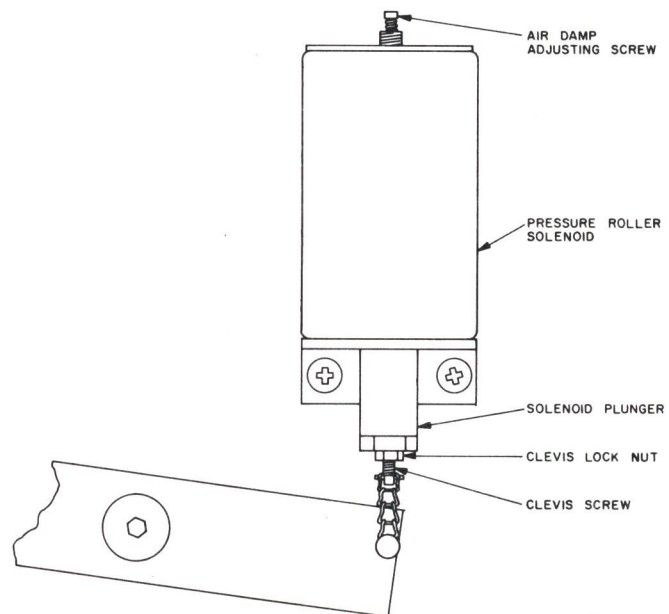

FIGURE 6-6
4. If adjustment is required, loosen the clevis lock nut and rotate the solenoid plunger as follows. See Figure 6-6.